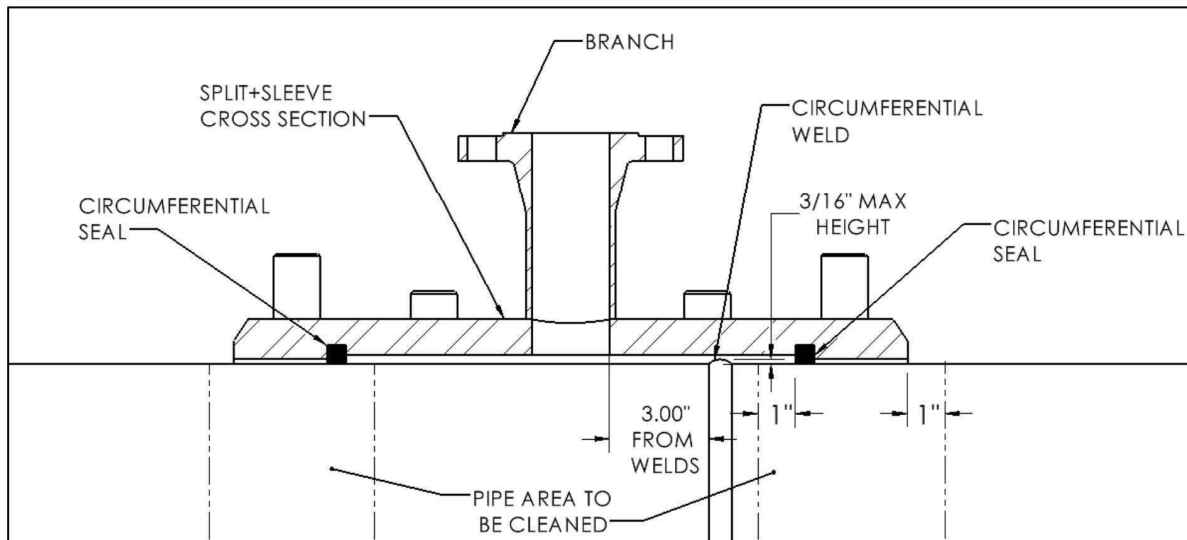

Figure 3
2. Remove all coatings, rust, and scale from the pipe surface where the circumferential seals of the PLIDCO Hot Tapping+Saddle will contact the pipe (see Figure 3). A near-white finish, as noted in SSPC-SP10 / NACE No.2, is preferred 1" (25mm) before and after the seal. The cleaner the pipe surface, the more positive the seal. Sandblasted surfaces should be buffed smooth.
extend 1 inch (25mm) inside of the seals and 1 inch (25mm) beyond the end of the fitting as shown in Figure 3 designated, "Pipe area to be cleaned".
4. Circumferential pipe welds between the circumferential seals do not need to be ground flush as long as the weld height does not exceed 3/16 inch (4.7 mm) (see Figure 3). In addition, circumferential welds should be a minimum of 3" (76.2mm) from the hot tap branch.